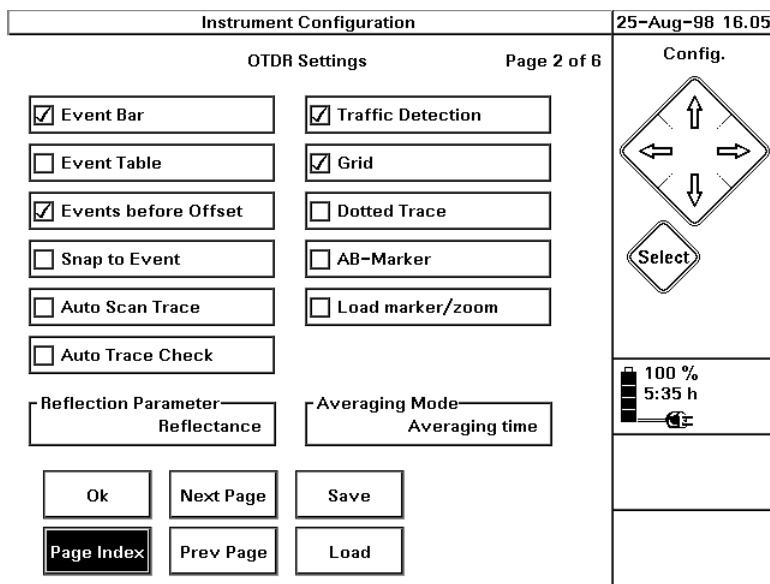

Figure 5-4
- 1 Move down to Page Index and press SELECT. Select OTDR Settings. You see a screen headed OTDR Settings (Figure 5-4).